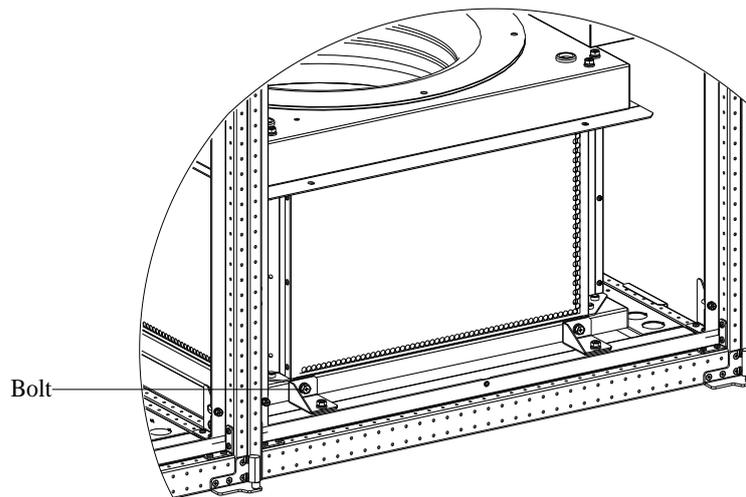

Figure 3-15 Position of fixing bolt
3. Cut off the cable tie binding the fan cables to make the cables length satisfy fan lowering requirements, and then remove the fixing bolts (see Figure 3-15, totally 4 pcs) for fan transportation.